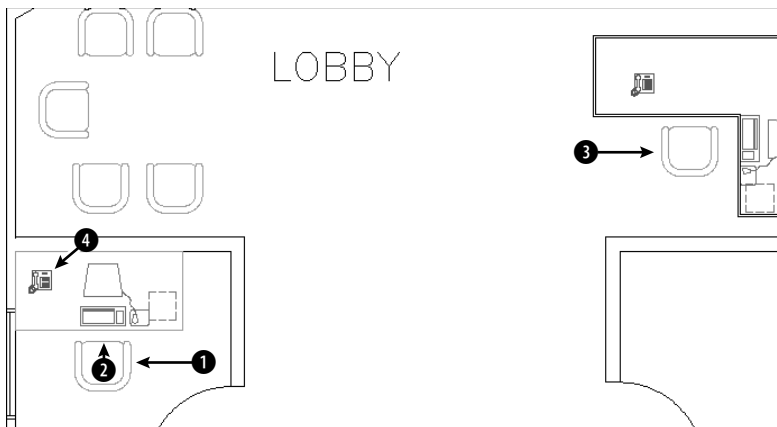

Figure 18-38: An office building plan layout.
2. Save the file as `ab18-10.dwg` in your AutoCAD Bible folder. This is a portion of an office building plan layout, as shown in Figure 18-38.
- **If you have AutoCAD LT:** At the Select block reference: prompt, pick the chair at ❶ in Figure 18-38. In the Edit Attributes dialog box, change the date purchased to 4/97.
6. Choose **Explode** from the **Modify** toolbar and select the chair at ❶ in Figure 18-38. Press **Enter** to end selection. The attributes reappear, but without their values. Choose **Draw** ⇨ **Block** ⇨ **Define Attributes**. Create an invisible attribute with a tag and prompt of **Color**, and a value of **Dusty Blue**. Click **OK** and pick an insertion point underneath the other two attributes of the armchair. (You'll need to pan down a little. Exact placement is not important.) Choose **OK**.
8. Choose Insert Block. In the Insert dialog box, choose **armchair** from the Name drop-down list. With Specify On-screen checked only for Insertion Point, click OK. Insert the chair at ②. In the Enter Attributes dialog box, click OK to accept the values, or press Enter to accept the values on the command line.
9. **AutoCAD only:** To verify that your drawing has redefined the block elsewhere, choose Modify ⇨ Object ⇨ Attribute ⇨ Single. Select the block at ③. Notice that the Color tag has been added with a value of Dusty Blue. Click OK to accept the values. (In AutoCAD LT, the new attribute appears only in the block that you redefined, and new blocks that you insert.)
10. Use Zoom Window to zoom in closely to the telephone at ④ in Figure 18-38. The telephone has a visible attribute of the phone number. The number is so small that it cannot usually be seen, and so does not interfere with the drawing.